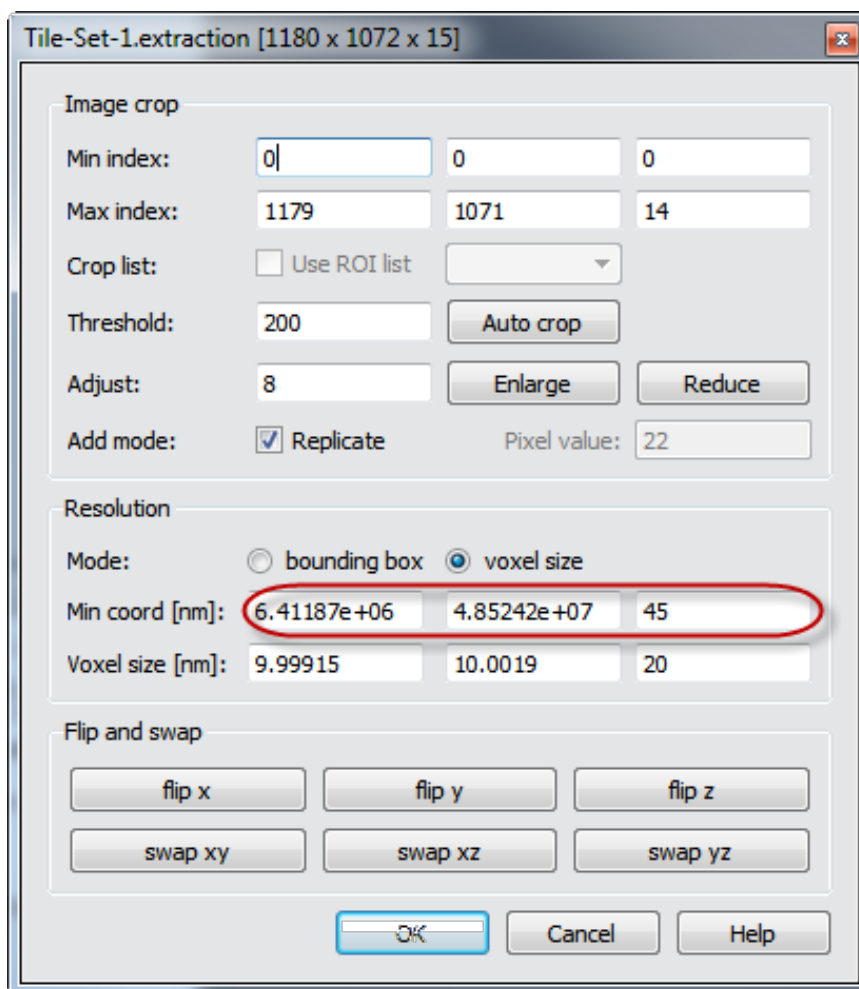

Figure 13.18: The Crop Editor.
Figure 13.18 shows an example of a Crop Editor dialog of an extracted data set. From the *Min Coord [nm]* text fields (red highlight) one notes that the origin is translated by about 10E+6 nanometers from the global origin in the image acquisition plane (XY)